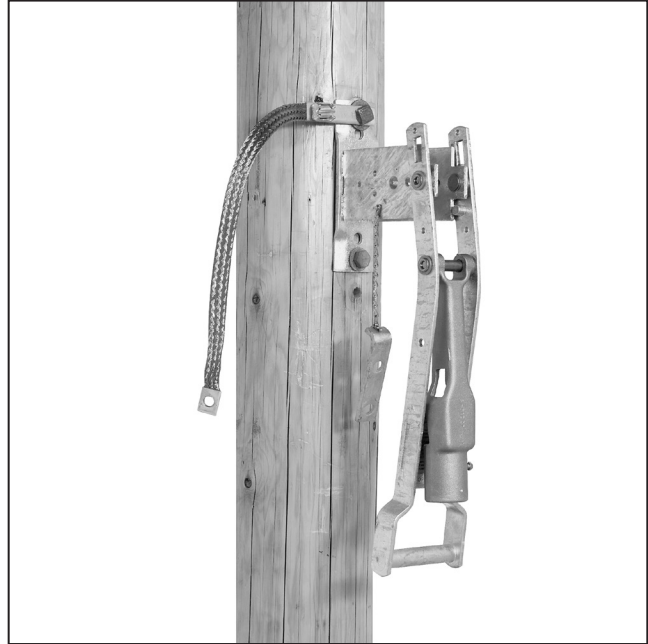

Figure 20. Mounting operating handle.
**STEP 17.** Mount the operating handle assembly as shown on the erection drawing (ED). At the same time, use one of the mounting bolts to attach one end of the ground strap (the end with the grounding connector attached) to the handle mounting plate. ■ See Figure 20.